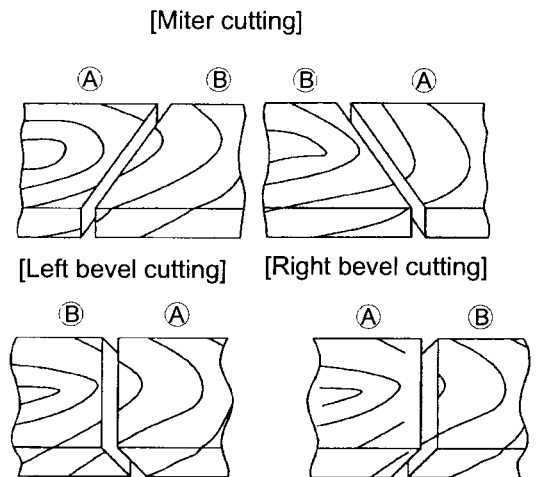

Fig. 37
In the cutting examples illustrated in Fig. 37, the cut surfaces on the sides marked (A) (cut with the grain) are better than those on the sides marked (B).
(9) Crown molding cutting